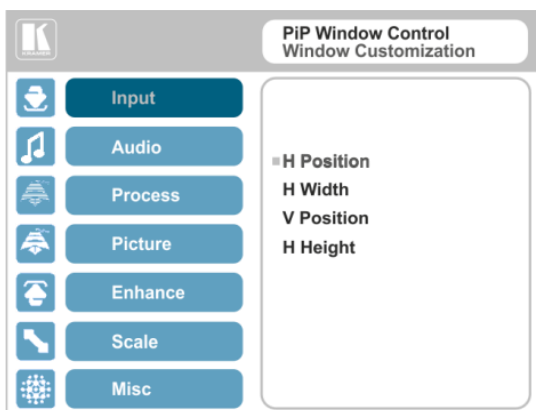

Figure 14: Window Customization
2. Select Window Customization (see Figure 14).